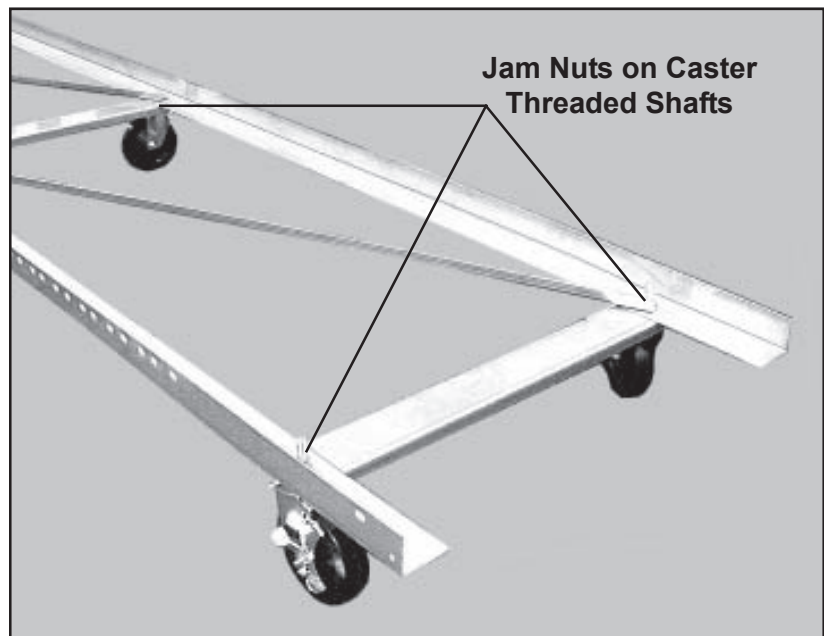

Figure 11. Jam Nuts on Casters
2. Disassemble as many cages on the arrangement as necessary to reach the jam nut on the concerned caster/wheel assembly (Figure 11). **Note:** It should not be necessary to remove the adapter wood spacers on laminated cage arrangements - you should be able to access the jam nuts through the notches in the spacers.